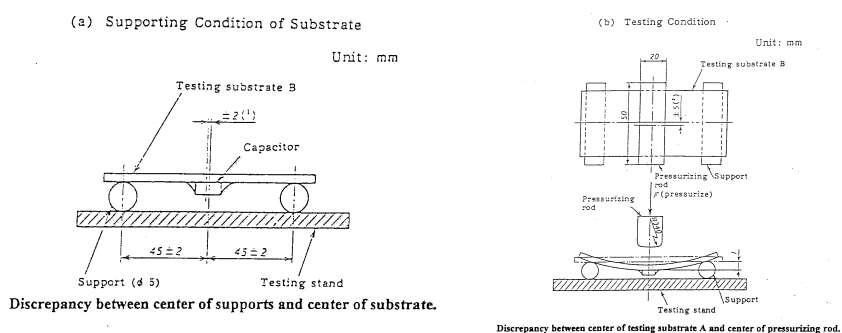

Fig.2 Flexural test of substrate
2.2 The substrate shall be so placed with it's surface on which capacitor is mounted downwards that the center of capacitor coincides with the center of supports as illustrated in Fig2.